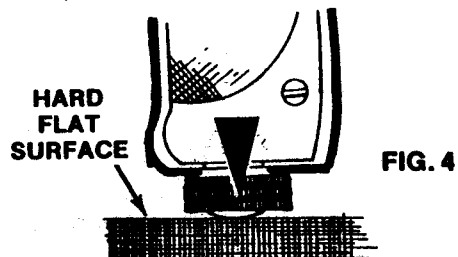

FIG. 4
- B. To pierce the Powerlet, grip the gun firmly with both hands and press the Piercing Assembly down on a hard surface (table top, etc.) (See Fig. 4) This will pierce the Powerlet and your pistol is under pressure.